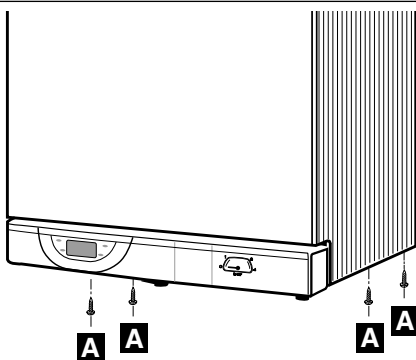

Fig.16
- Tighten the 4 screws located at the bottom as shown in Fig. 16.